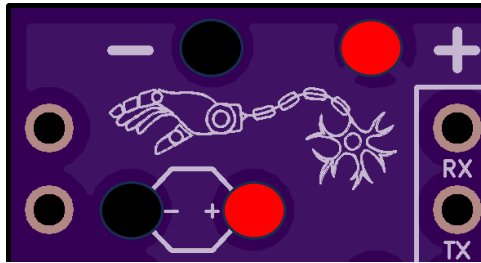

Figure 25: Power mount thru-holes
3. Cut 4 pieces of the power wire about 2-3 feet (or to your desired length) and solder them to the thru-holes shown in **Figure 25** below.